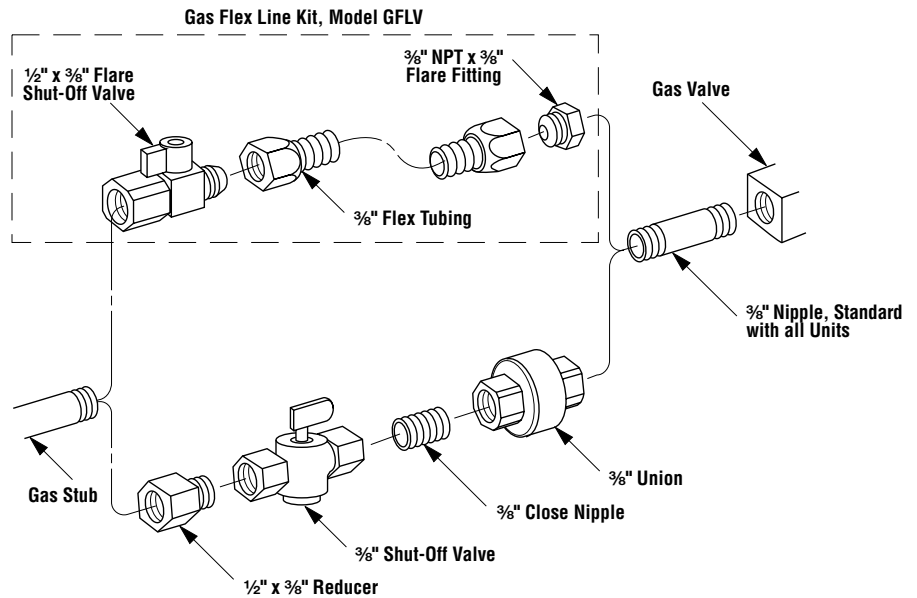

Figure 10
Step 5. Connecting Gas Line – Make gas line connections. All codes require a shut-off valve mounted in the supply line. Figure 10 illustrates two methods for connecting the gas supply. Installation methods and materials must be in compliance with local codes.